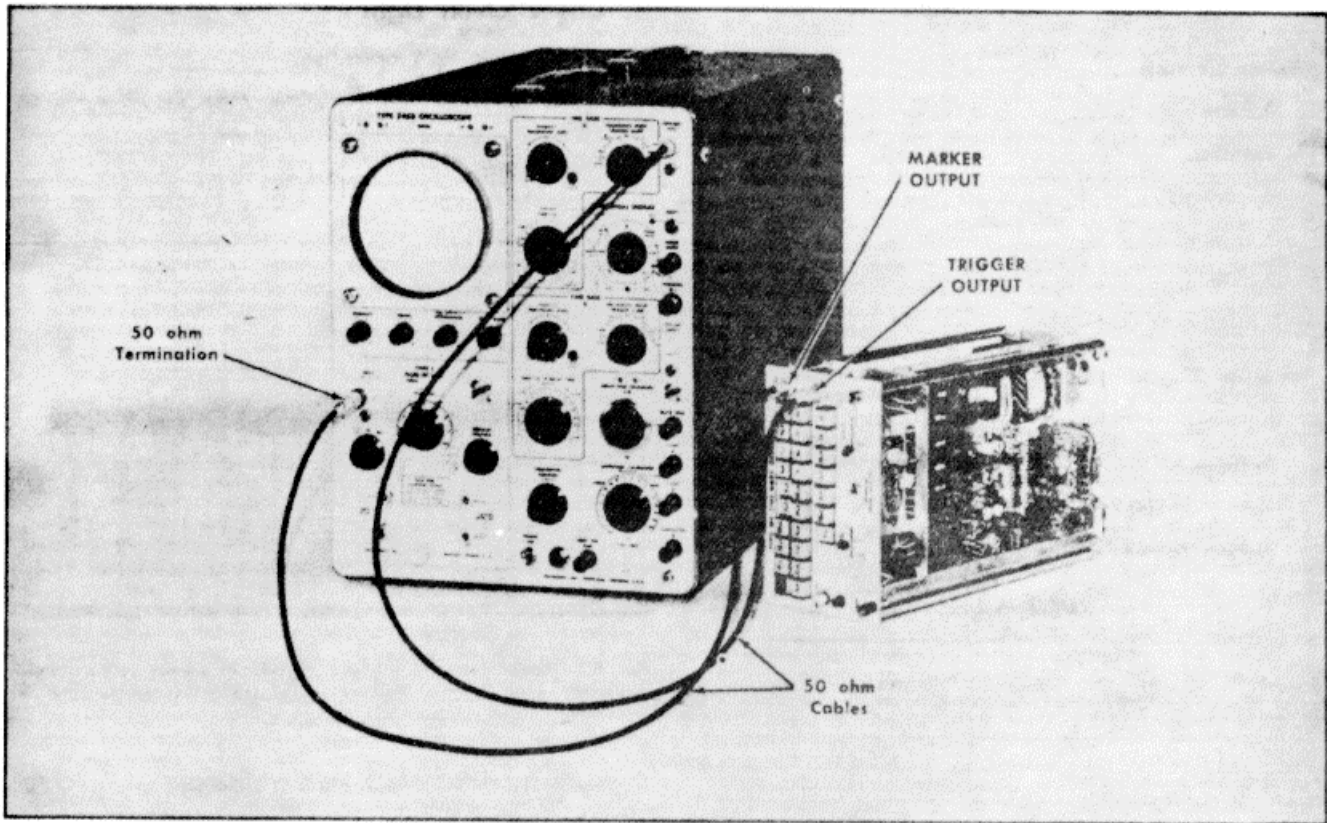

Fig. 6-6. Checking end adjusting .1 μ S and .5 μ s time-markers. Step 4.
4. Adjust .1μS and .5 , μS Time-Markers (1)
- a. Test equipment setup is shown in Fig. 6-6.